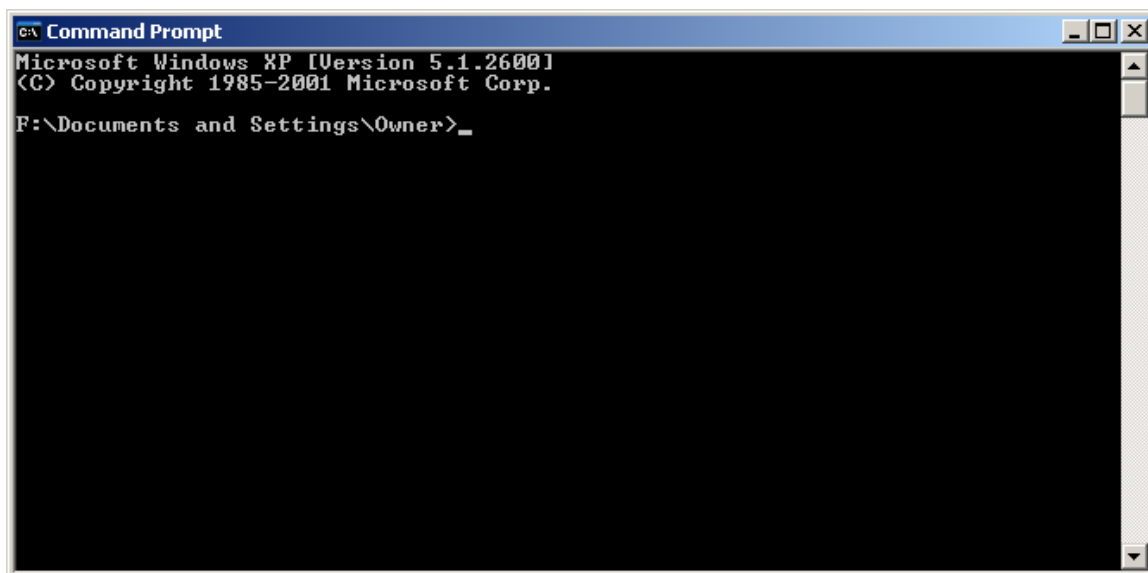

Figure 8-5 –Command Prompt Window
- b. Select Programs, then Accessories, then Command prompt. The Command Prompt window in Figure 8-5 will appear.